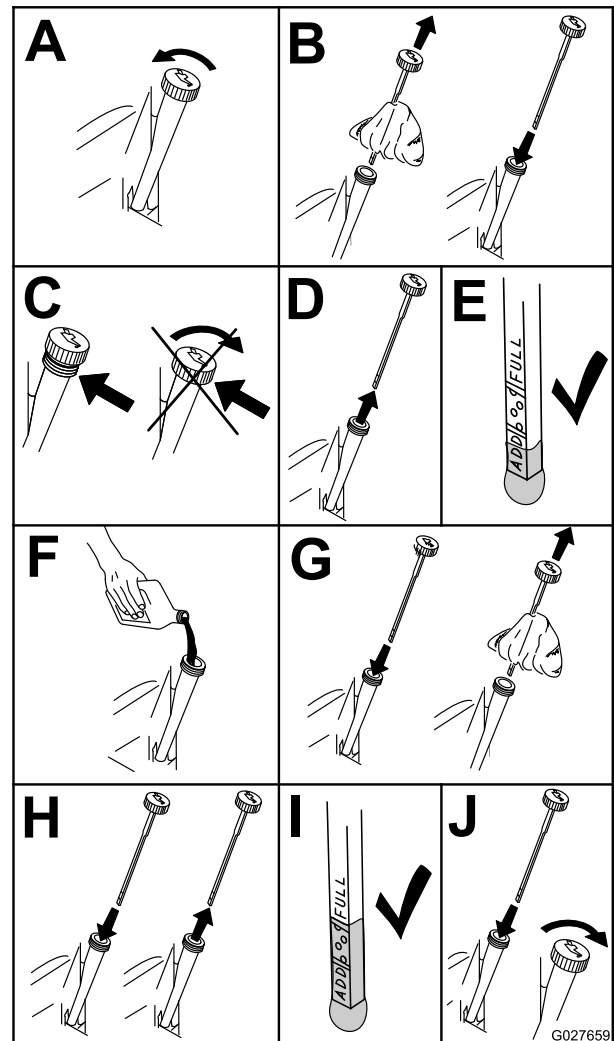

Figure 45
2. Shut off the engine, remove the key, and wait for all moving parts to stop before leaving the operating position (Figure 45).